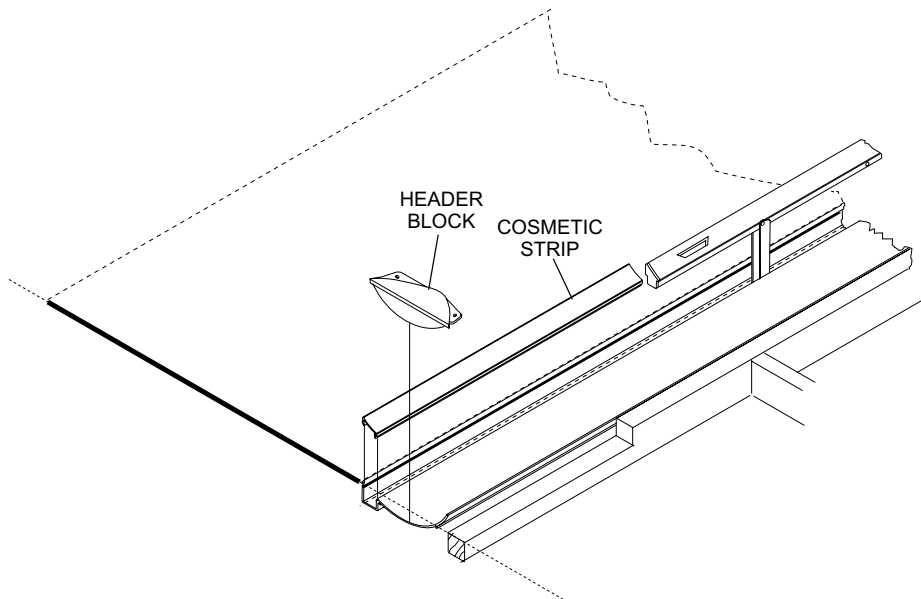

Figure 6
- At the foul line, remove the screws securing the header block to the gutter and remove the header block and cosmetic strip. Set aside for reinstallation later. Refer to *Figure 6*.
- 17. Reinstall the cosmetic strip and transition block at the foul line. Refer to *Figure 6*.